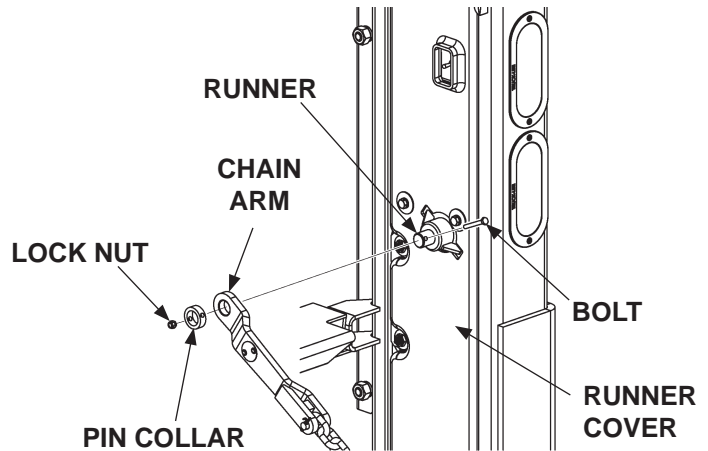

FIG. 2-2
2. Unbolt pin collar from RH runner to remove chain arm (**FIG. 2-2**). Then, unbolt and remove cover from runner. Repeat for LH chain arm and LH runner.